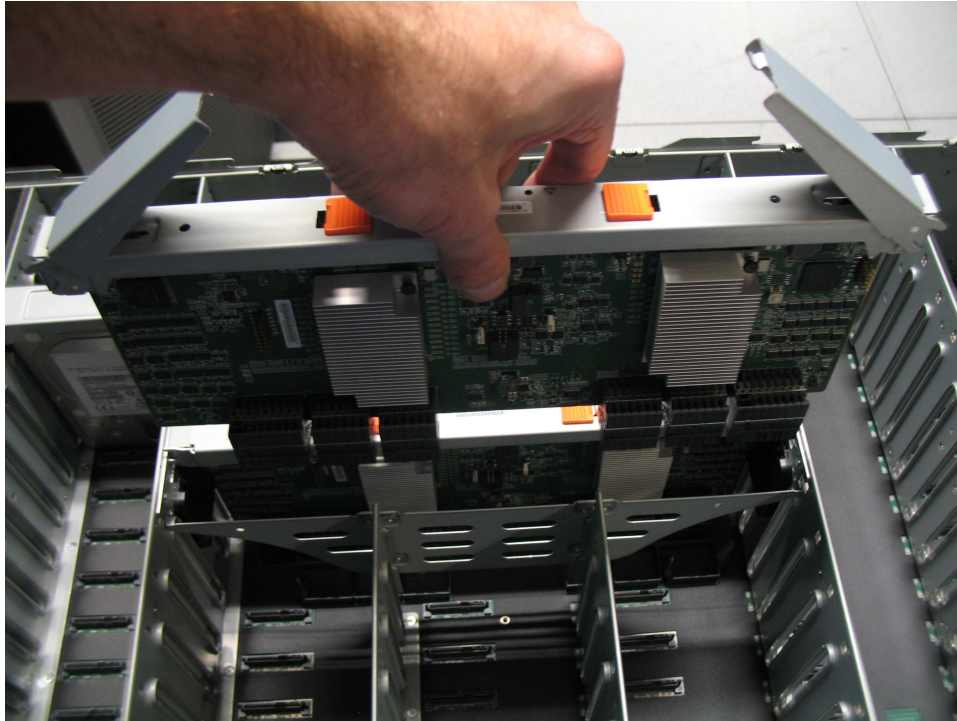

Figure 69. Replace the secondary expander module
4. Align the edges of the secondary expander module carefully in the guide slot in the enclosure, as shown in Figure 69 on page 72.